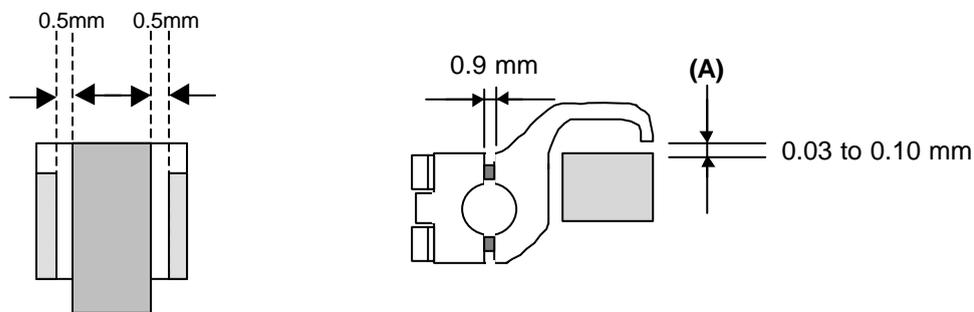

Figure 22
5. The next step is to lock all the individual claws. When these are locked, the clearance between the tip of the claw and the guide rail should be in the range of 0.03 to 0.10 mm. **(A)** Each claw should be locked using a 4N.m torque wrench. However, before proceeding to lock each claw, there are some other considerations to bear in mind. (See fig.22)